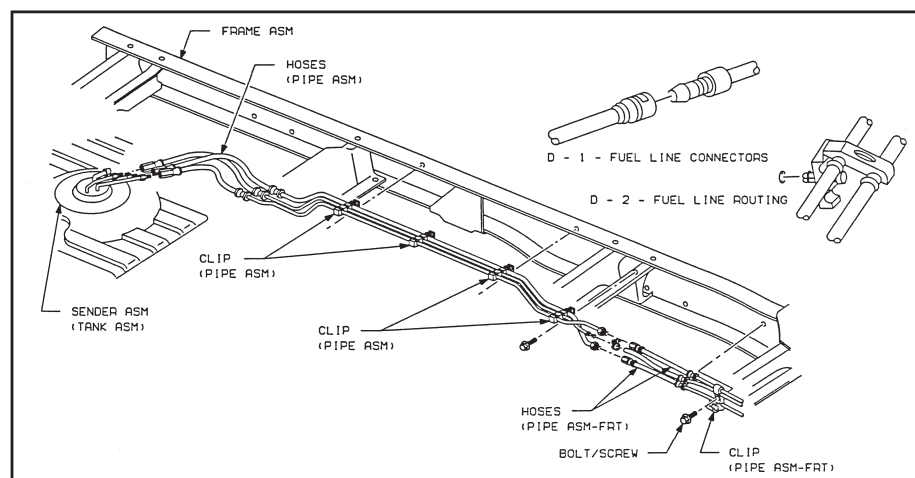

Figure 28
- Be careful not to bend fuel lines and avoid routing them near sharp edges and protruding objects. Clip fuel lines to chassis, spacing the clips every 600 mm or less. Metal clips should have plastic or rubber liners. (Figure 28)